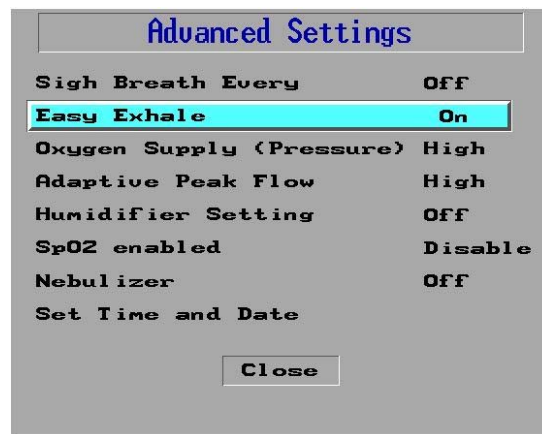

Figure 79: Easy Exhale Selected in the Advanced Settings Screen
2. In the **Advanced Settings** screen select **Easy Exhale**. The current status is shown in the right column of the screen (Figure 79).